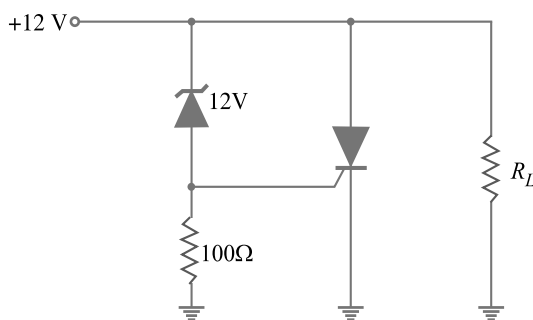

Fig. 18.30
**Example 18.18.** The zener diode of Fig. 18.30 has a tolerance of  $\pm 10\%$  and the trigger voltage can be as high as 1.5 V. What is the maximum supply voltage where crowbaring takes place?